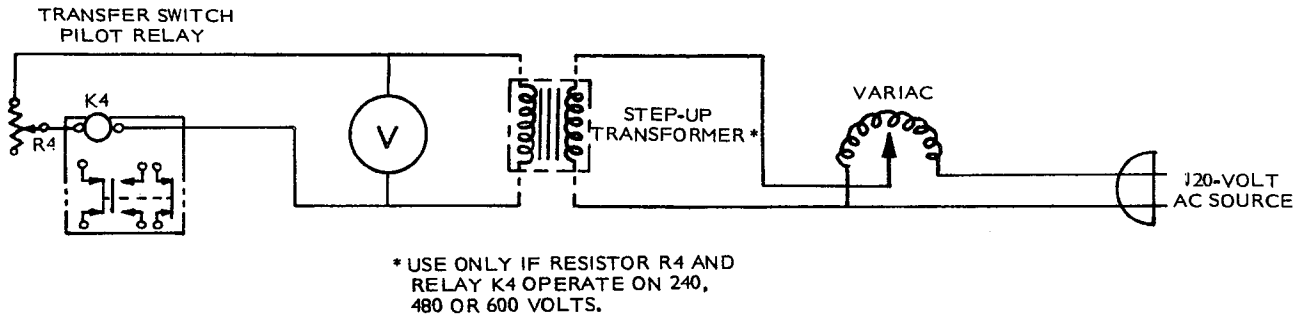

FIGURE 2-17. PILOT RELAY CONNECTIONS FOR SETTING VARIABLE RESISTOR
6. Remove the wire lead(s) on the side of the resistor R4 from generator line B and the wire lead(s) on the side of the relay K4 coil from generator line A. Connect an Onan Multi-Tester to the resistor and relay. If an Onan Multi-Tester is not available, connect a Variac and accurate voltmeter to the relay and resistor as shown in Figure 2-17.
If the automatic transfer switch operates on 240, 480, or 600 volts, also connect a step-up transformer (from 120 to 240 volts, for example), minimum of 25VA. See Figure 2-17. Using a Multi-Tester for these adjustments with higher voltages also requires the use of an accurate voltmeter as shown for the Variac.